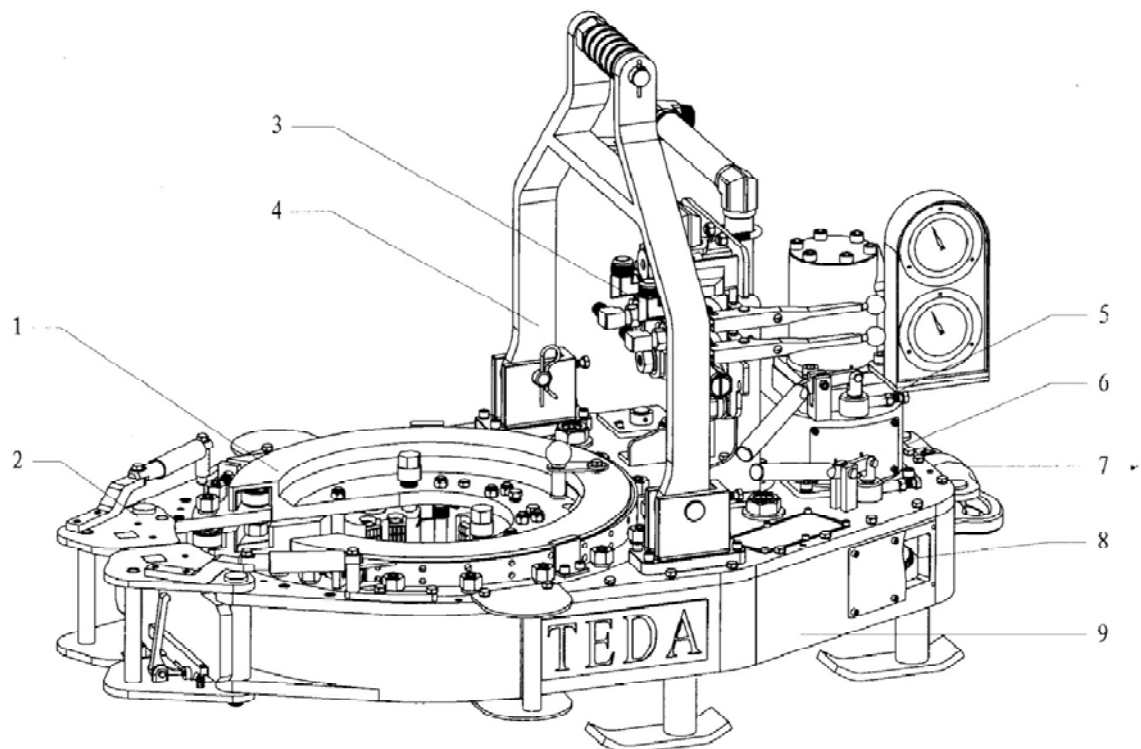

Fig 5
- 7.2. Master tong assembly (Fig5, Table4)
7.2. Master tong assembly (Fig5, Table4)